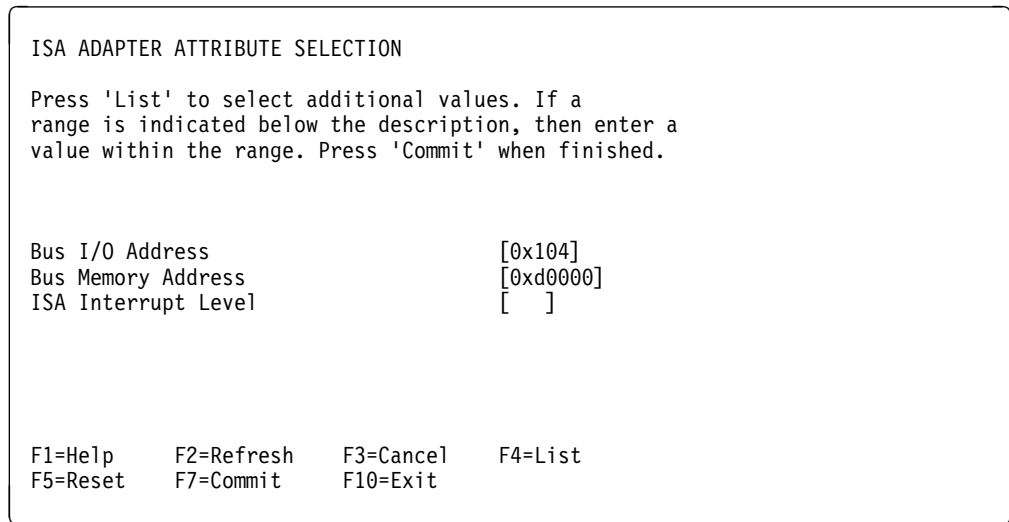

Figure 44. ISA Adapter Attribute Selection Diagnostic Menu
7. Enter the parameters, as requested, as shown in Figure 44 on page 151. For our 8-port card, we only had to enter the Bus I/O Address.